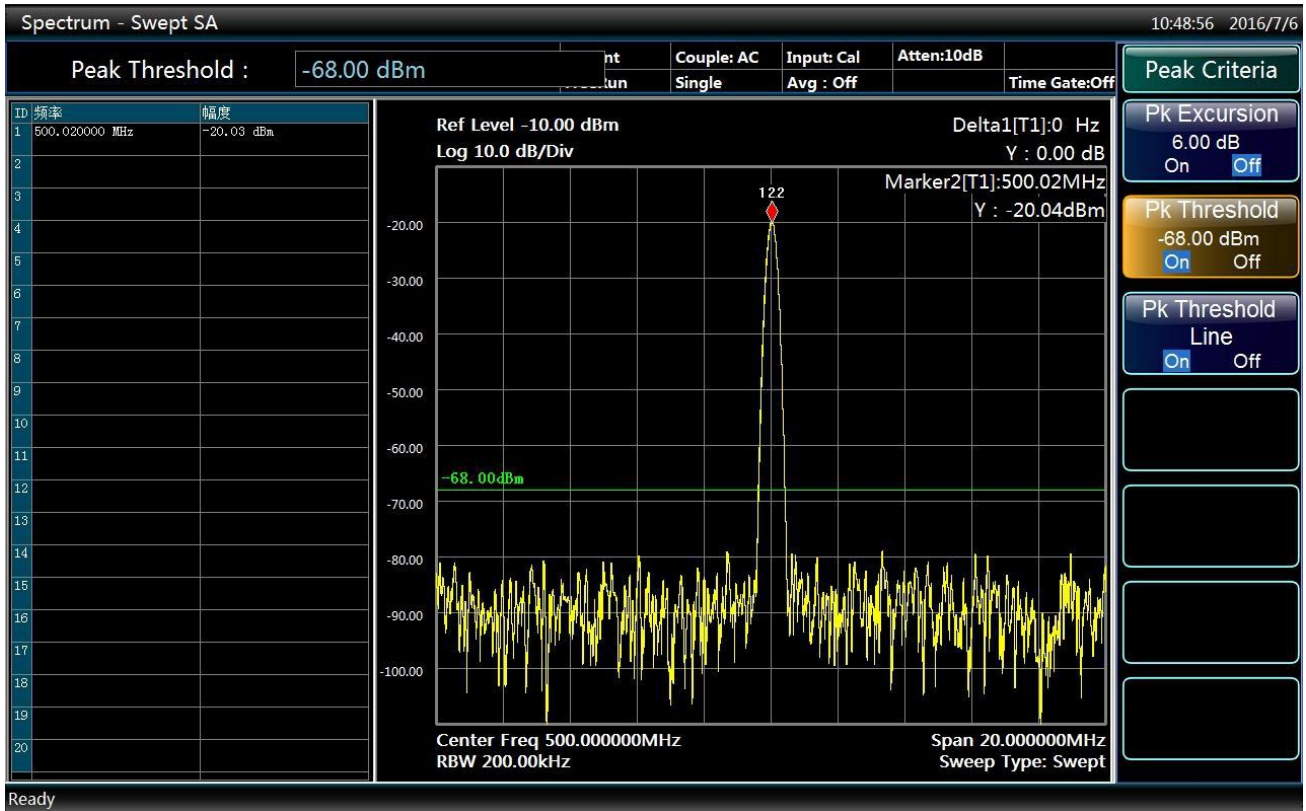

Fig. 3.22 The interface of opening peak threshold
- Press **【Peak Search】** to open the peak search soft menu; press [More 1/2], [Peak Criteria▶] and [Peak Threshold On/Off] to set the peak threshold as -68dBm as shown in Fig. 3.22.